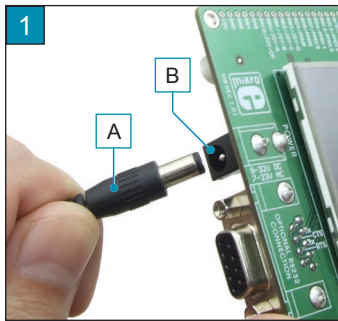

Figure 1-1: Plugging power supply cable in
There is an AC/DC connector marked POWER provided on the *MultiMedia Board*. It enables the board to be interfaced to a power supply source. Plug the appropriate power supply cable connector (A) into the AC/DC connector POWER (B), Figure 1-1.